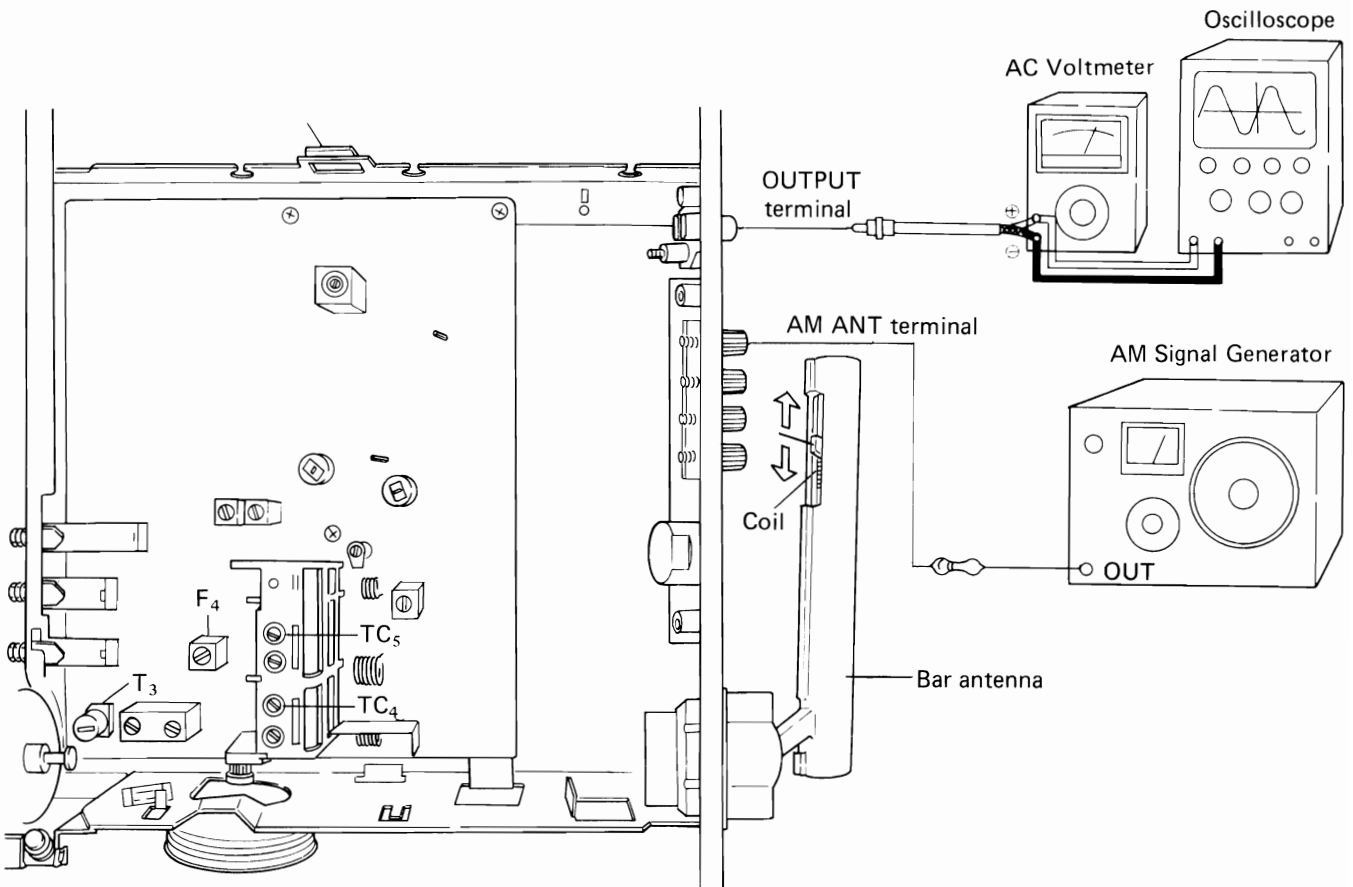

Fig. 8-1
1. Set up the test equipment as shown in Fig. 8-1.